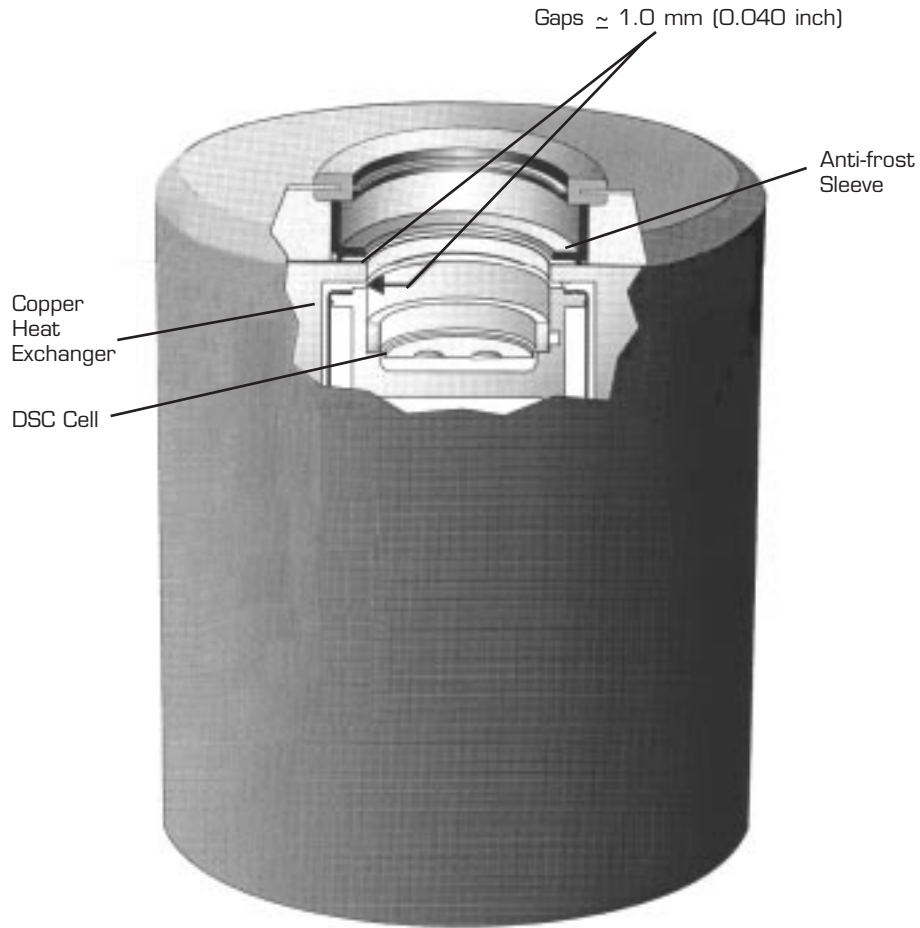

Figure RCS.4
4. Look inside the top of the cooling head assembly again after you have made sure that it meets the criteria in step 3b. There should be a small uniform gap (~1.0 mm [\sim 0.040 inch]) between the underside of the copper heat exchanger and the top of the cell and between the bottom of the anti-frost sleeve and the top of the copper heat exchanger. If the gaps are too large, repeat steps 1, 2, and 3. See the arrows on Figure RCS.4, on the next page, for the location of the gaps.